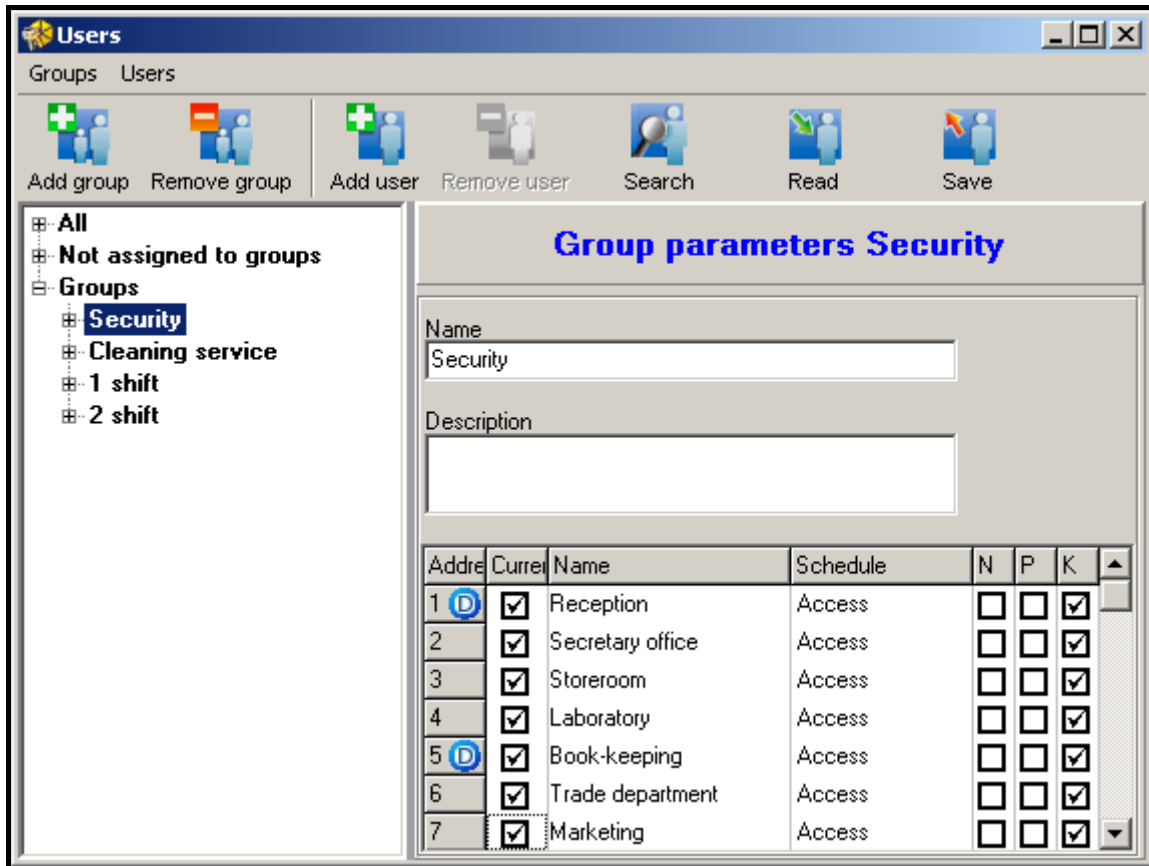

Fig. 29. An example of user group settings.
2. Click on the  button and select the GROUP THE USERS command (see Fig. 29). The users not assigned to any group will be assigned to the first available group with parameters corresponding to those of the given user. If there is no group corresponding to the user parameters, a new group will be created.